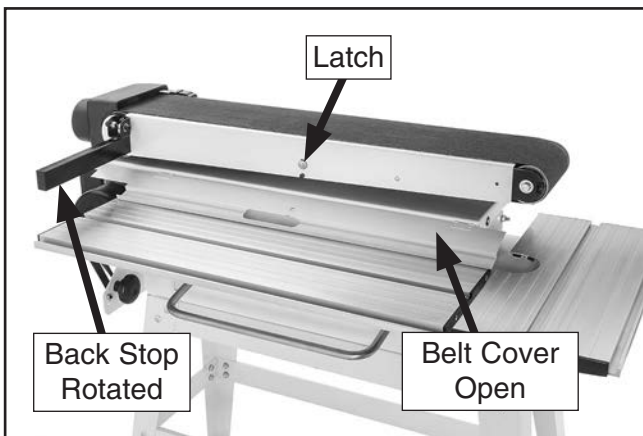

Figure 26. Belt cover open and back stop rotated.
4. With belt cover open, rotate back stop out of the way (see **Figure 26**).